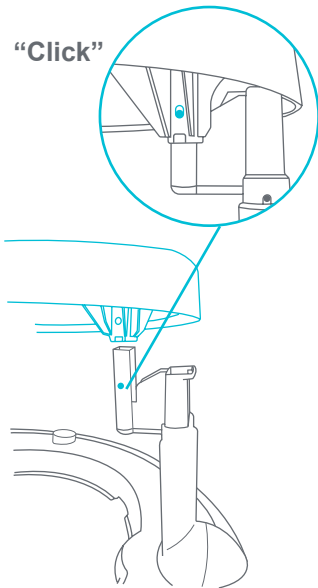

Fig. 1b
- Insert the tabletop into all 3 legs (Fig. 1b).